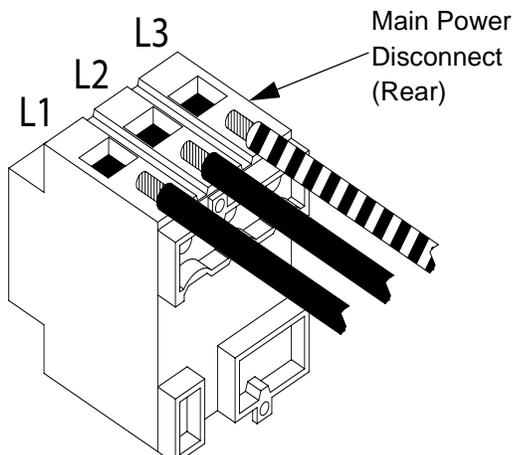

FIG. 7: Main Power Connection
- Open electric console and switch any two of the three main power leads on main disconnect. (See FIG. 7.) Recheck direction of rotation and check hydraulic connections for leaks.